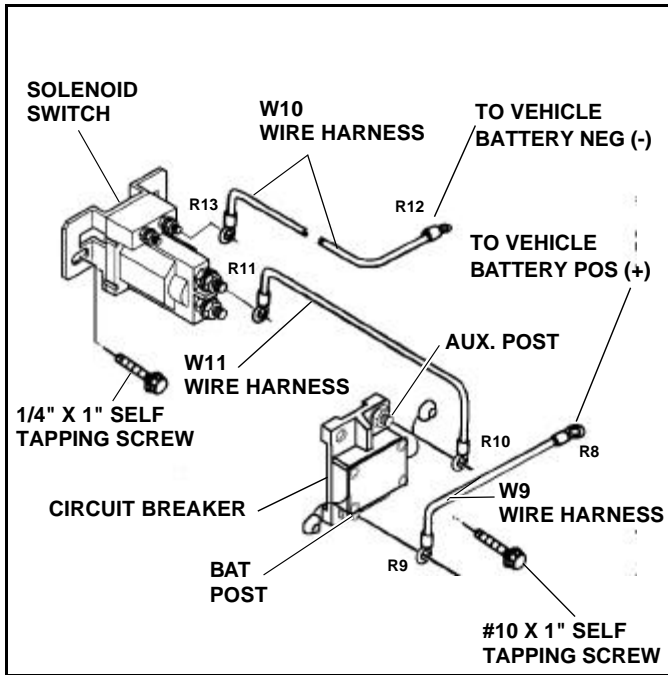

Figure 1-4
7. Mount the Solenoid Switch with two (2) 1/4" x 1" Self-Tapping Screws.
8. Mount the circuit breaker with two (2) #10 x 1" Self-Tapping Screws.
9. Attach the Small Ring Terminal of the Solenoid Ground Wire to one of the Small Terminals of the Start Solenoid Switch. (See Figure 1-4)
- Terminal R13 to the NEG. (-) terminal of the Solenoid Switch. (See Figure 1-4)
- Terminal R10 to the AUX terminal of the Circuit Breaker. (See Figure 1-4)
- Terminal R11 to one of the larger terminals on the Solenoid Switch. (See Figure 1-4)